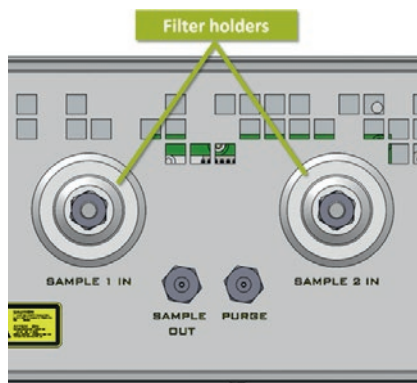

Figure 81. Particle filter holders' location.
3. Locate the particle filter holders in the rear panel. See Figure 81 for examples from Pulse, Chopper and DFB models.